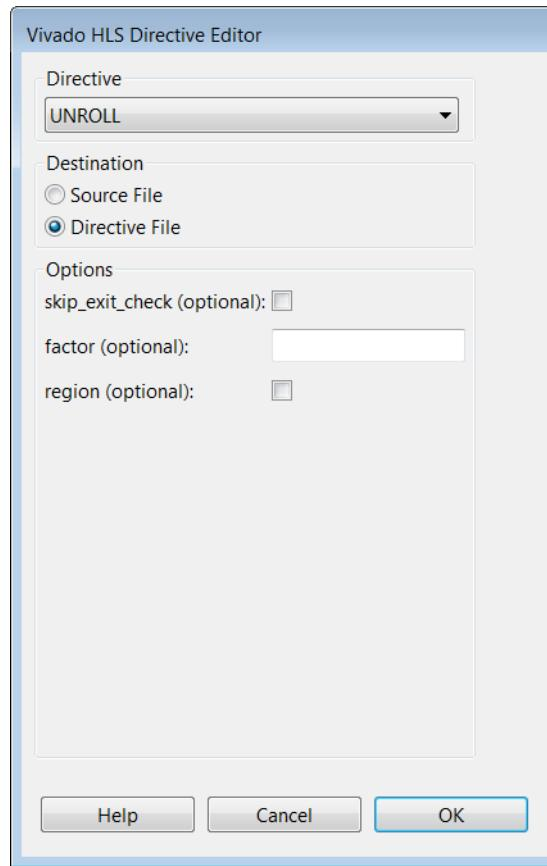

Figure 4-18: Directives Editor to Unroll For_Loop
Step 2 used a single-port RAM interface because the for-loop in the source code (Figure 4-18) is by default left rolled: each iteration of the loop is executed in turn:
- b. With the Directives Editor as shown in Figure 4-18, click **OK**.